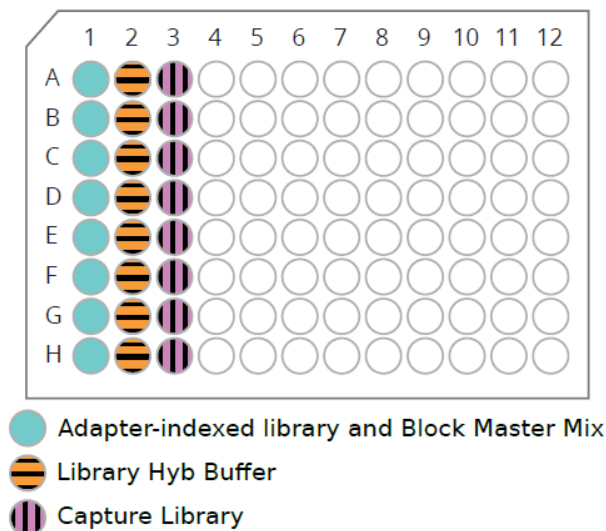

Figure 6. Capture Library in “Column 3”.
- d. After the incubation of Library Hyb Buffer at 65°C for 3 min, put the previously prepared **Capture Library Mix PCR tube*** (Step 3c) into the thermal cycler (e.g. column 3, see Figure 6) and incubate at **65°C** for **2 minutes**.